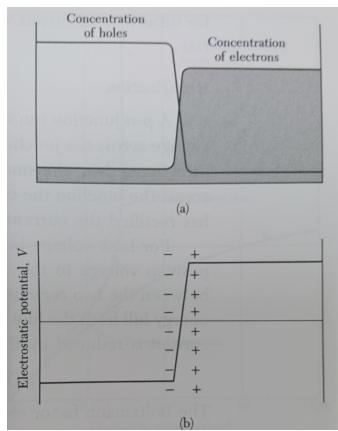

Fig. 1
3. p-n junctions consist of 2 separate regions made of n- and p-type semiconductors. While n-type semiconductor provides electron carriers (also called donors), p-type semiconductors accept electron carriers (also called acceptors). The n indicates "negative" for electrons and p indicates "positive" for holes. When these two types of semiconductors form an interface without external field, partial electrons diffuse into the p-type region (Fig. 1 (a)), leaving holes in the n-type region in thermal equilibrium and the product of pn is constant. Figure 1(b) shows the build in electric potential across the interface due to the diffusion. The build-in electric field sets up a potential difference within a region termed depletion area. The diffusion pushes electrons towards p-type while the electric field pushes electrons back to the n-type region, eventually two balancing two forces and creating a zero net carrier diffusion.